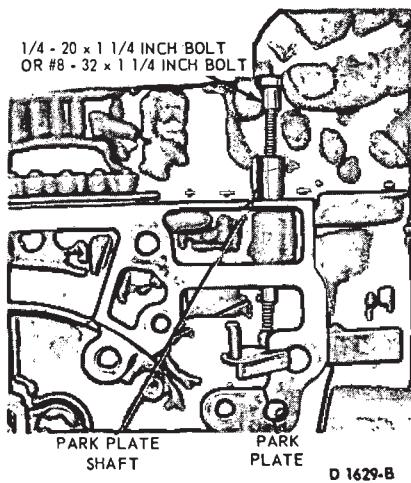

FIG. 34—Removing Park Plate Shaft
5. Thread a 1/4-20 inch or #8-32 x 1 1/4 inch screw (Fig. 34) into the park plate shaft. Pull the shaft from the case with the screw.